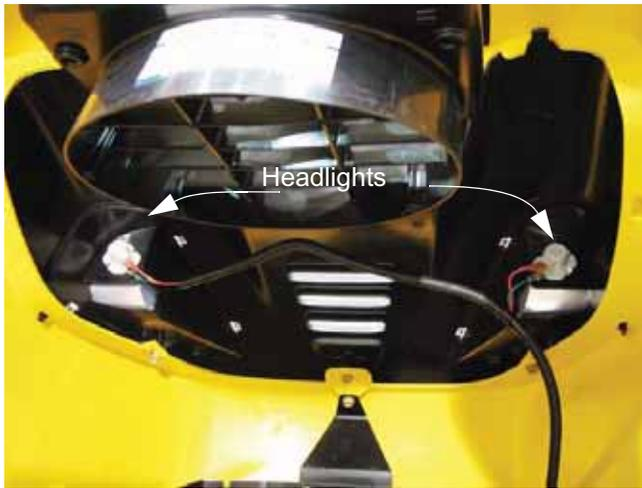

Figure 7.12
8. The **lighting circuit** is hot whenever the engine is running. It does not draw from the battery, but runs directly off its own circuit on the alternator. See Figure 7.12.